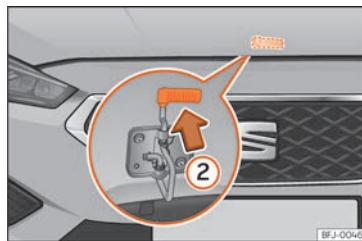

Fig. 311 Cam under the bonnet
- To lift the bonnet, press the release catch under the bonnet upwards »» Fig. 311 ②. The arrester hook under the bonnet is released.